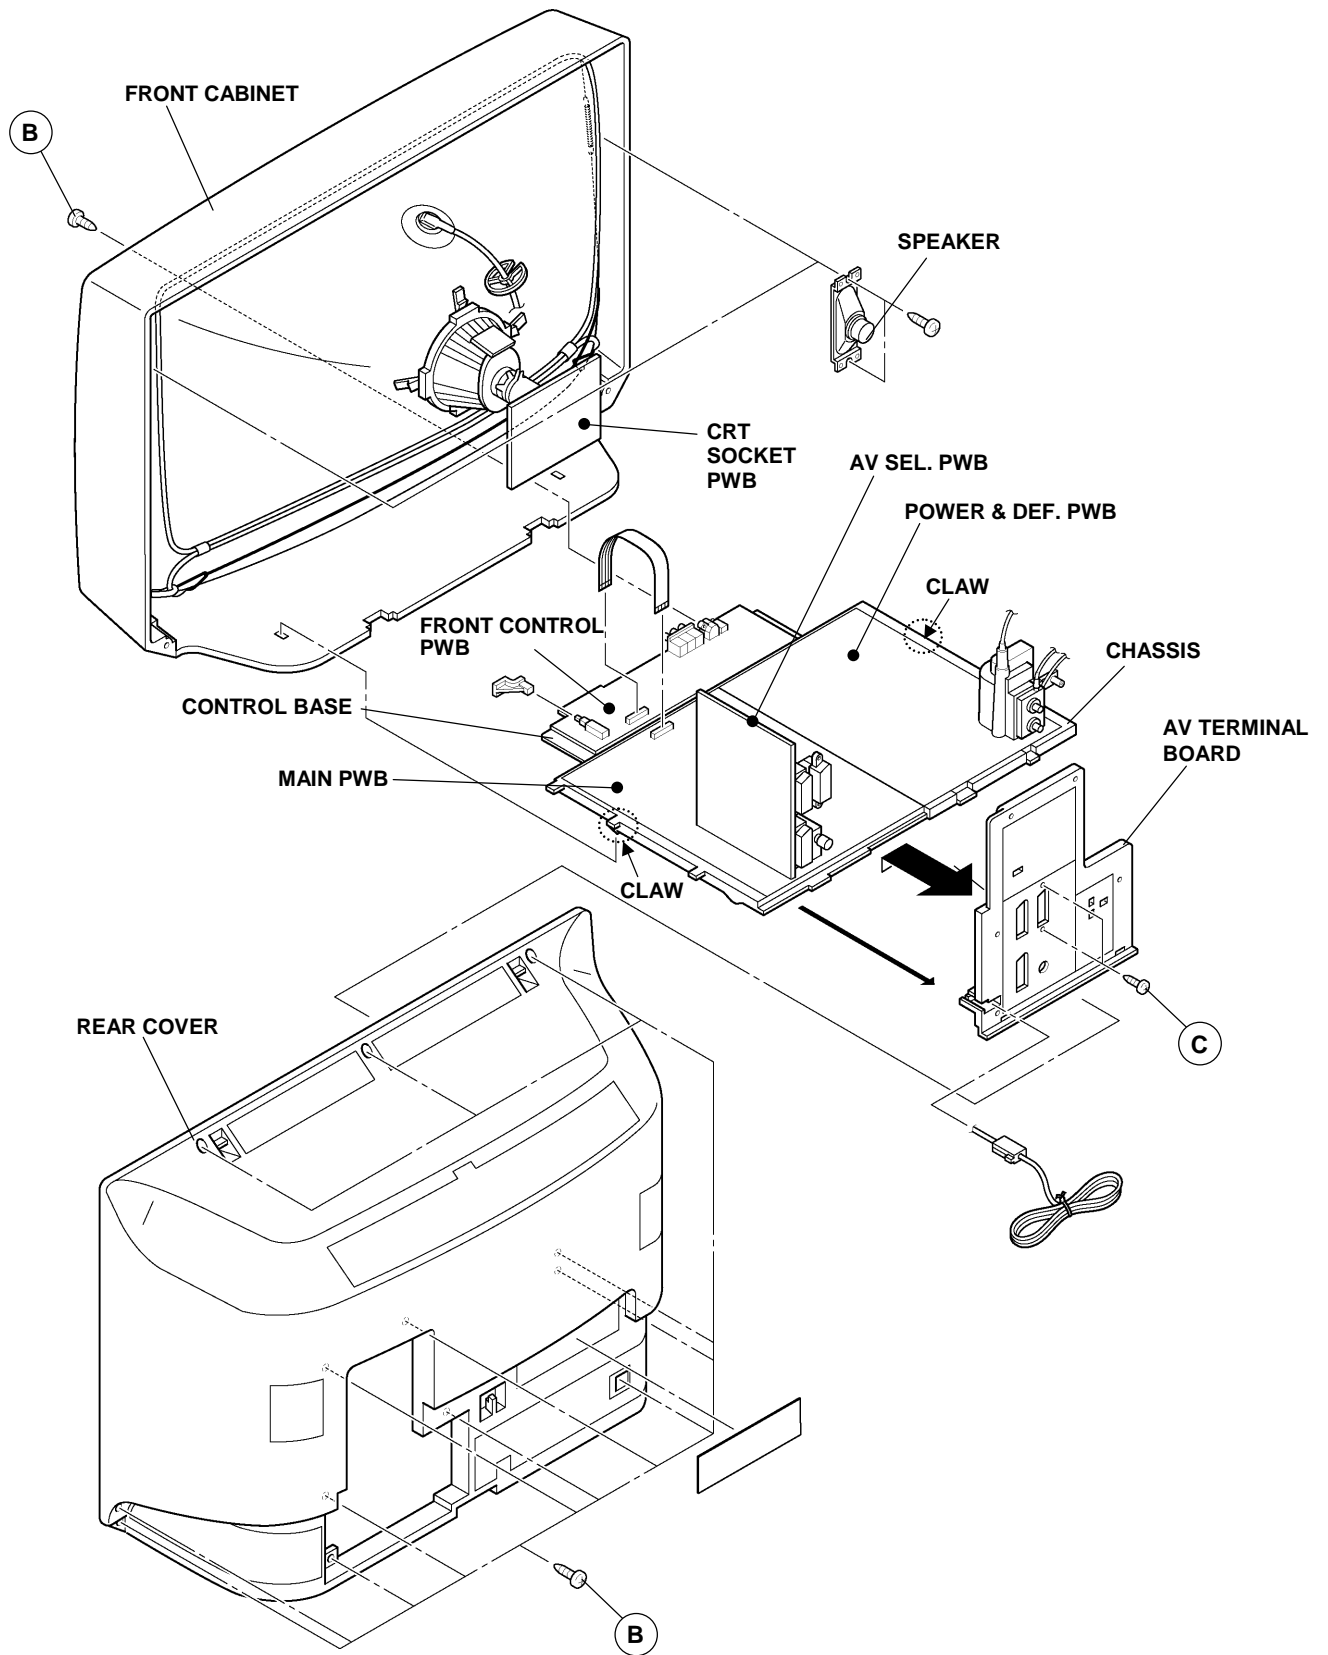

Fig. 1
2. Remove the 13 screws marked "A" as shown in the Fig. 1.
1. Remove the screw marked "B" on the S/VIDEO terminal of FRONT CABINET as shown in the Fig. 1.
1. Remove the 2 screws marked "C" as shown in the Fig. 1.
1. Remove the 2 screws marked "G" as shown in Fig. 1.